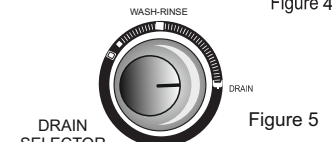

Figure 5
- After washing, the buzzer will ring. Set the "DRAIN SELECTOR" at "DRAIN". (Figure 5)